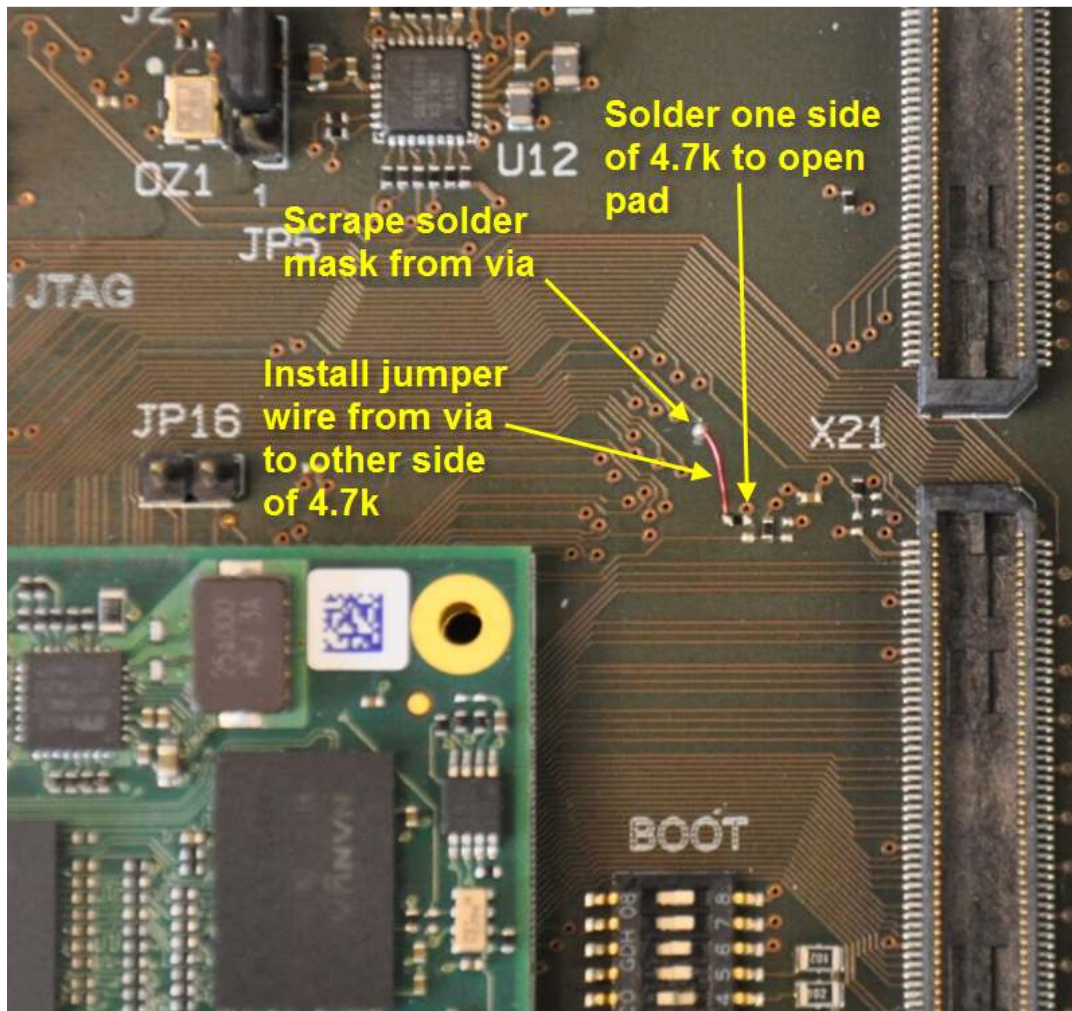

Figure 1: Errata 02 Rework
**Workaround:** Solder re-work must be done on the phyCORE-Vybrid Carrier Board (PCM-952). Add a 4.7kΩ resistor between  $\text{NFC\_R}/\overline{\text{B}}$  and VDD\_3V3. Figure 1 below, shows a 0402 package 4.7kΩ (1/16 W, 1-5%) resistor soldered to the top pad of R114 (not populated) for a connection to VDD\_3V3, which is then connected by a wire to the  $\text{NFC\_R}/\overline{\text{B}}$  signal available at the respective via.